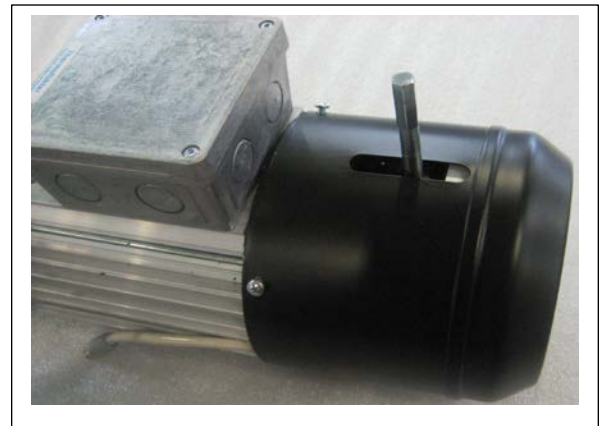

Figure 72
1. Remove the brake release cable from the brake lever. (See Figure 72.)